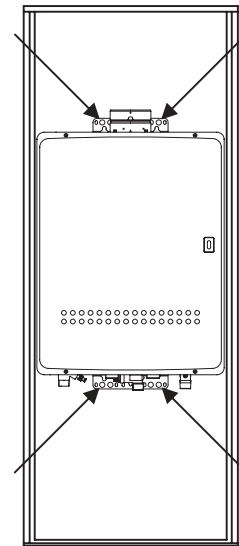

Figure 3: Locations of mounting screws.
- Mount the heater to the recess box by sliding the mounting brackets over the supplied screws as shown in Figure 3. Secure the heater to the box using the nuts and washers supplied in the installation kit (IK-RB-3).